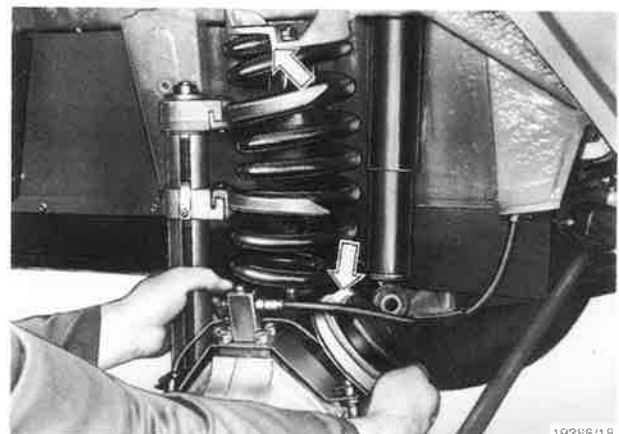

Fig. 1
- 5 Insert complete spring retainer acc. to fig. 1. Take care that spring ends at top and bottom spring retainer or centering ring resp. sit tight at stop. Put half-axle into horizontal position by lifting wheel drive with a movable jack. While doing so keep spring ends as mentioned in stop position and care for correct position of bottom spring retainer at spring support bolt.